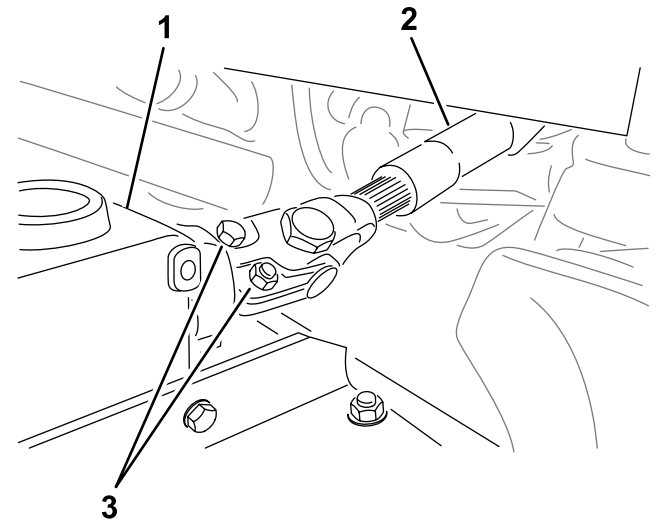

Figure 20
5. Remove the bolts and nuts from the PTO shaft (Figure 20) and slide the yoke out of the gearbox.